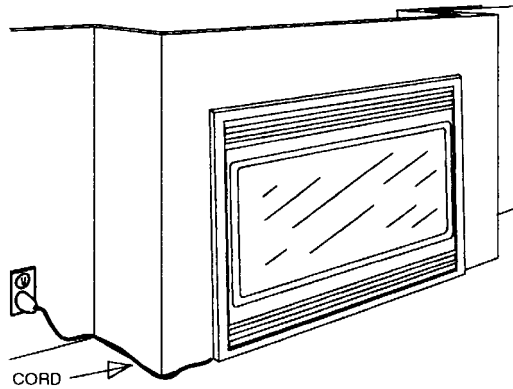

FIGURE 4
**Option #1** - The power cord can lead from behind the trim and along the wall to an outlet near the fireplace. (FIGURE 4)